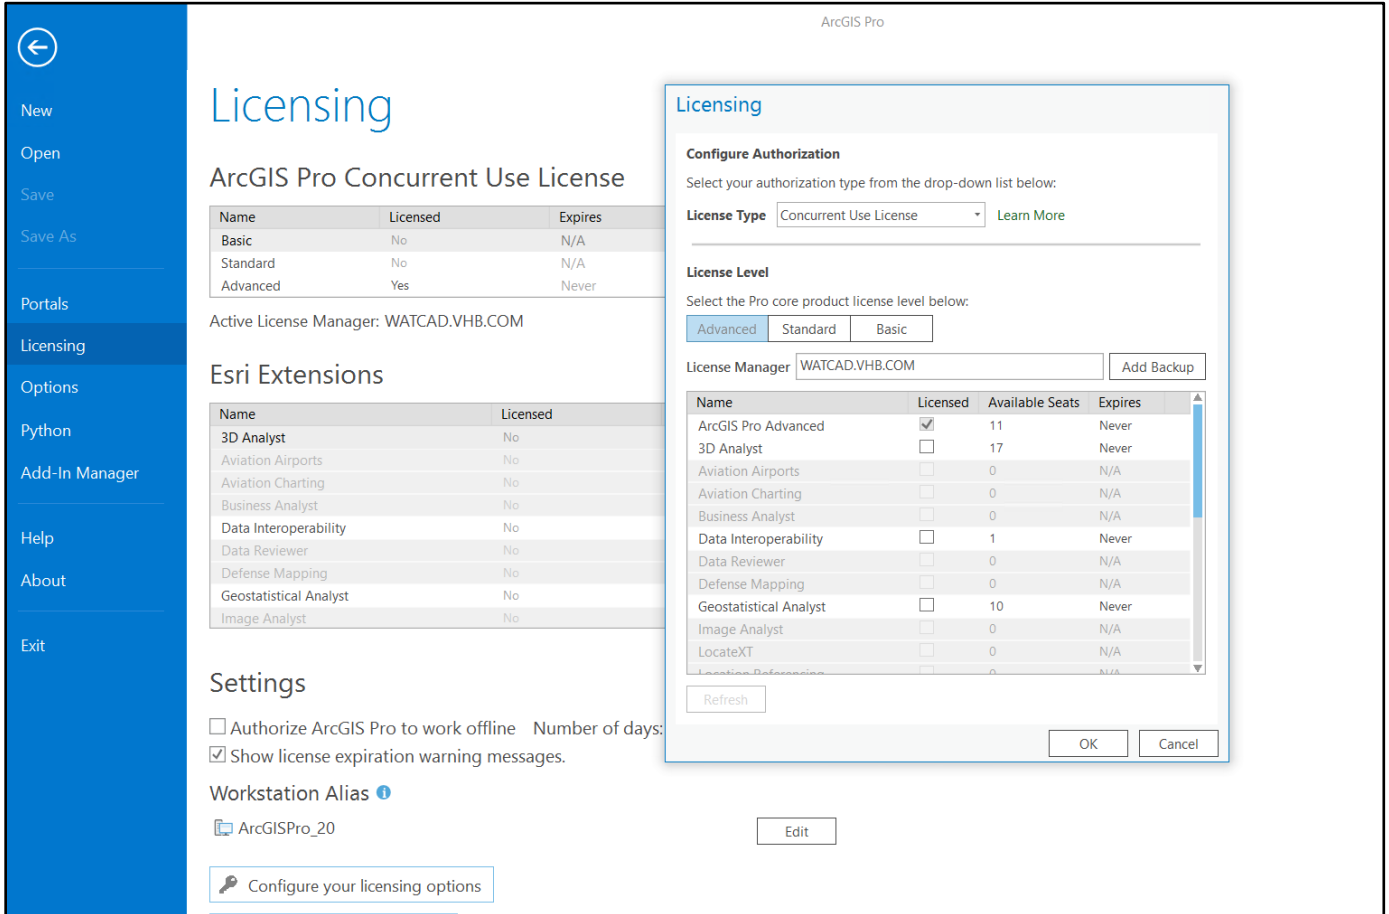

Figure 3. ArGIS Pro advanced license check-out.
1. Check out an advanced license (Figure 3, below).